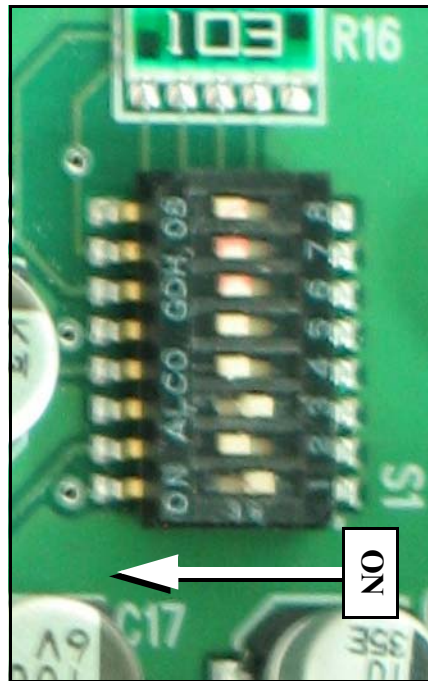

Figure 2-2
1. When looking at the installed board with the J2 BNC connector on the right near the top corner, S1-8 is on the top, and S1-1 is on the bottom. The switch should be clearly marked. See Figure 2-2 on page 2-8.